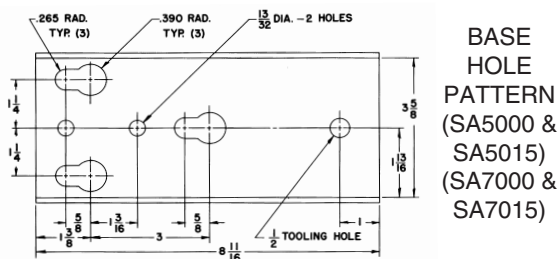

FIG. 2
5. Your winch is equipped with keyhole slots in the base for use with quick mounting shoulder studs, if desirable. (See FIG. 2&3) If you wish to use quick mount studs, they should be mounted securely into the winch stand. After positioning the winch on the studs, a 3/8" bolt should be placed in one of the other holes available to keep the winch securely in position.